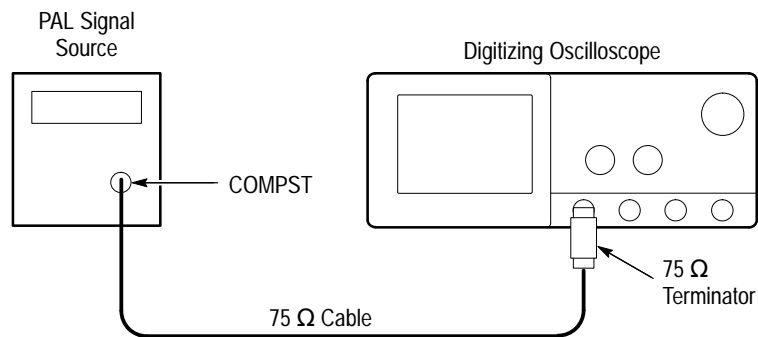

Figure 1–26: Jitter Test Hookup
- a. Set up equipment for Jitter Test. See Figure 1–26.
- b. CHECK that the oscilloscope lights up its front panel **TRIG'D** LED and it displays the waveform on screen. See Figure 1–27.